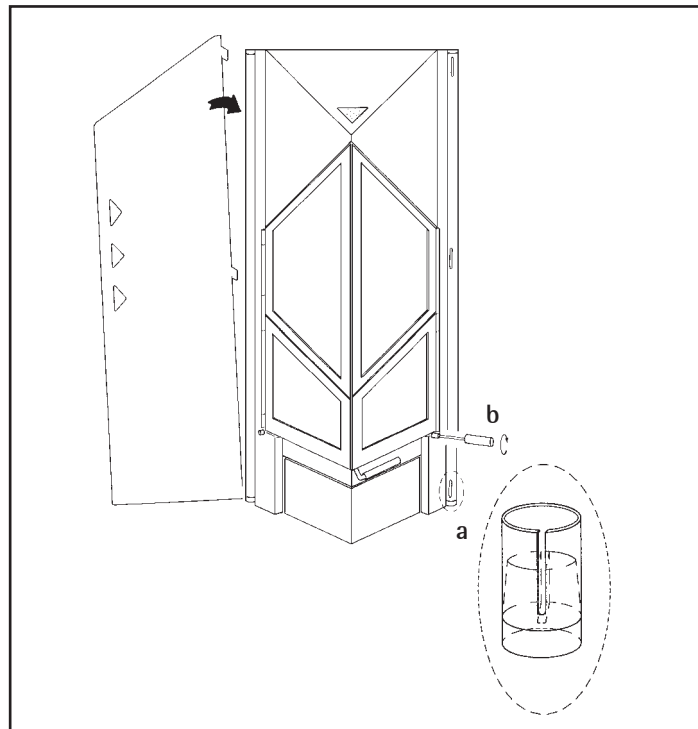

Fig. 1
1. Turn the stainless steel tubes with the slots towards the front. Please pay attention that the slot of the lower bearing (cf. figure 1, pos. a) matches with the slot of the stainless steel tube. Hang the doors as is shown in figure 1. Turn the stop screws (cf. figure 1, pos. b) in such a position that the external doors do not touch the stove casing when closed.